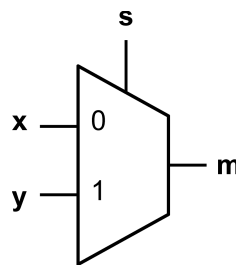
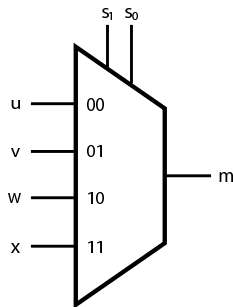

Figure 1: Symbol for a 2-to-1 multiplexer
Figure 3: Symbol for a 4-to-1 multiplexer
The schematics should show the structure of your circuit, much like the schematics in Lab 1 showed how your circuit should be built. Figure 1 and Figure 3 are examples of how to draw the schematic for multiplexers. For the schematics you will need to show the names of each input and output (in your Logisim circuits) and the switches or LEDs to which they would be mapped on the DE1-SoC board (for the top-level module).
Figure 1 shows the symbol for a 2-to-1 multiplexer. As mentioned in Lab 1, a multiplexer is a device that uses a select signal to select which one of multiple inputs should appear on the output of the device. In Figure 1, input *s* will control which of the inputs *x* and *y* will appear on the output *m*. If *s* is 0, *x* will appear on the output, while if *s* is 1, *y* will appear on the output.
Now construct a module for the 4-to-1 multiplexer shown in Figure 3 with the truth table shown in Table 1 using wires and multiple instances of the *mux2to1* module. Note that the truth table in Table 1 is given in a short-hand form. A real truth table would consist of rows enumerating all possible combinations of values of inputs u, v, w, x , in addition to s_0 and s_1 , and show the value (0 or 1) of the output m for each row of the truth table. Since this would result in a truth table with a large number of rows, it is written in short-hand form instead.
5. Map your Logisim design to the DE1-SoC board inputs and outputs. Use switches SW_{9-8} as the 2-bits input, and switches SW_{0-3} as the data inputs (labeled as u,v,w,x in Figure 3). Connect the output m to $LEDR_0$. **(PRELAB)**